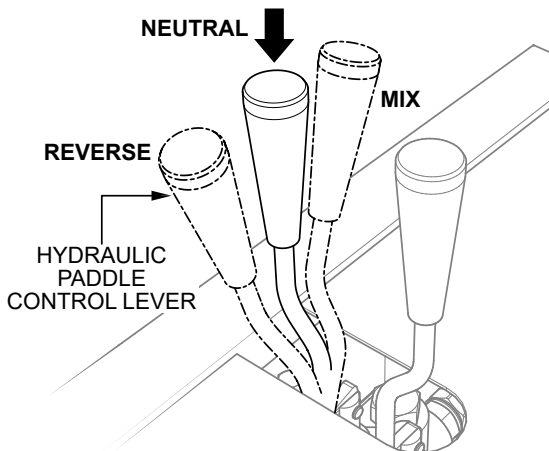

Figure 23. Hydraulic Paddle Control Lever (Neutral Position)
- Make sure the hydraulic paddle control lever (Figure 23) is in the **neutral** position.